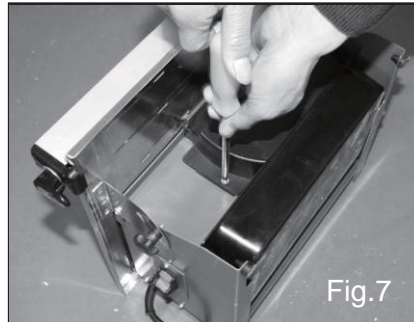

Fig.7
3. Remove the lower blade guard by removing the screws on each side of the lower blade guard (fig.7)